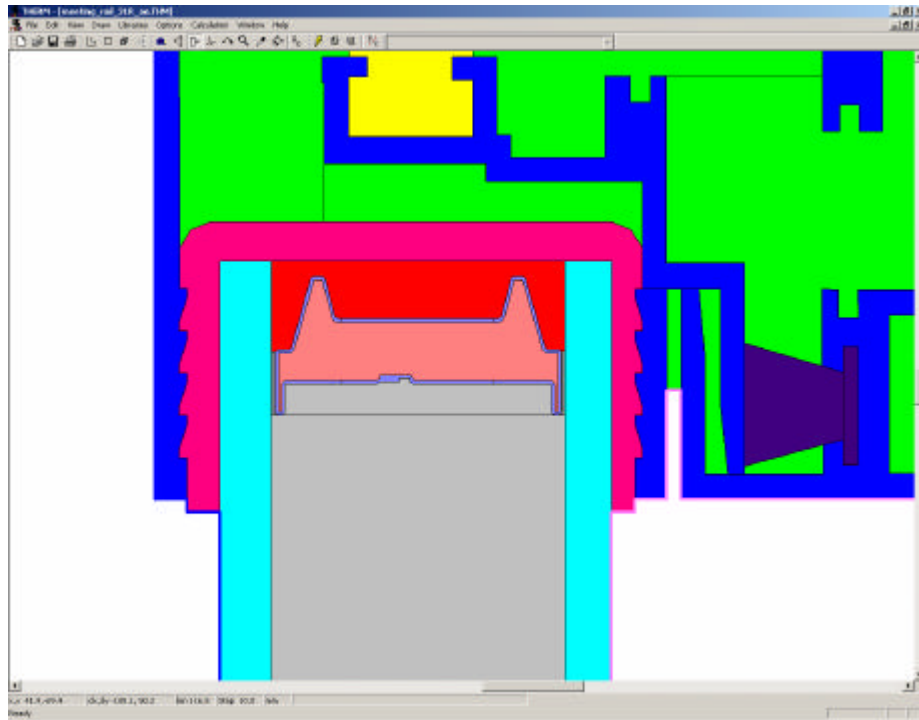

Figure 4-6: Continuation of the glazing cavity space into the spacer changed from default to actual glazing cavity effective conductivity, k_{eff}
- Finally, for spacers that have part of glazing cavity space, will need to have this material changed from the default to the material that has the same conductivity as glazing cavity (See Figure 4-6).